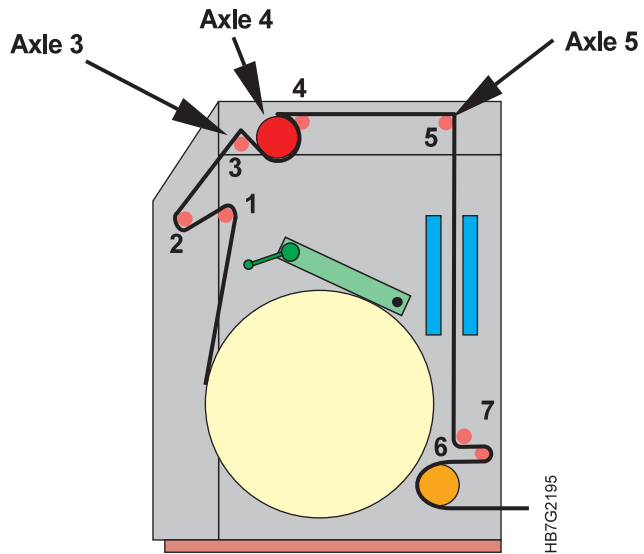
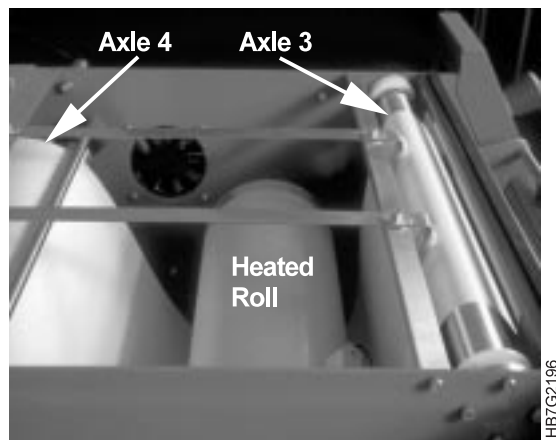

Figure 295. Paper Supply Paper Path
Figure 296. Paper Supply Heated Roll
- 12 Pull the paper over axle 3, as shown in Figure 295 on page 358. (The axles are numbered only in the diagrams.)
- 13 Place the paper under and around the heated roll, as shown in Figure 296.
- 14 Bring the paper up and over axles 4 and 5, as shown in Figure 295, and Figure 296.